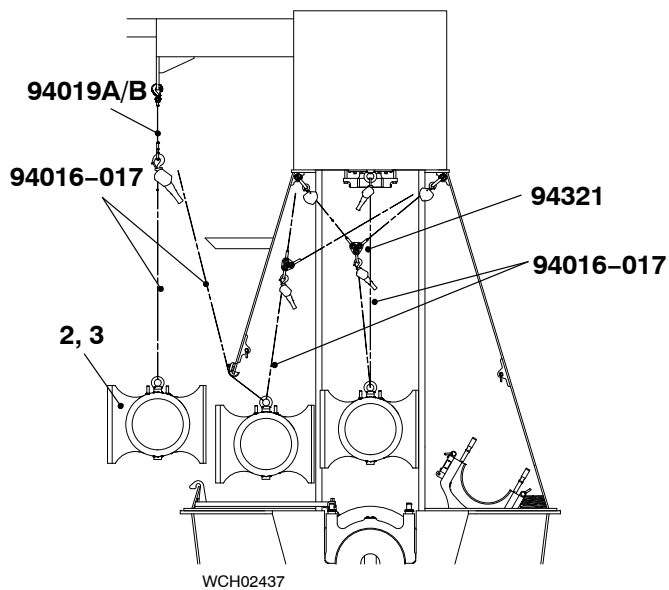

Fig. 9
- 1) Attach the two manual ratchets (94016 017, Fig. 9) to the eye bolt on the guide shoe.